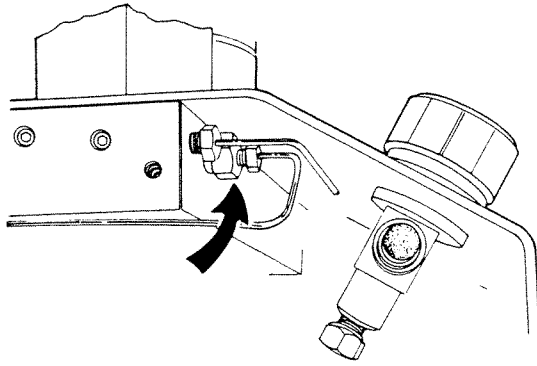

FIGURE 4-7 CHAMBER FILTER FITTING (LEFT END COVER REMOVED)
3. The chamber filter is located in a filter fitting in the chamber manifold as shown in Figure 4-7. The tubing from the filter fitting leads to the quick-connect fitting.
4. To access the filter fitting, remove the compression screw and ferrule (3/16" wrench) from the tubing assembly leading to the radial compression gauge (see Figure 4-7).
**REFER TO FIGURE 4-7 TO PROPERLY PERFORM STEP 10 OF THIS PROCEDURE.
12. Connect the tubing from the radial compression gauge to the proper connection as shown in Figure 4-7.